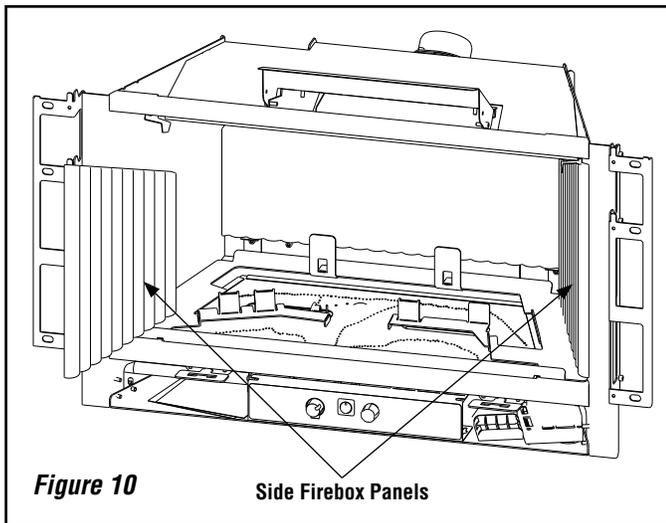

Figure 10
3. Install the side firebox liner panels by sliding them into place. See **Figure 10**.